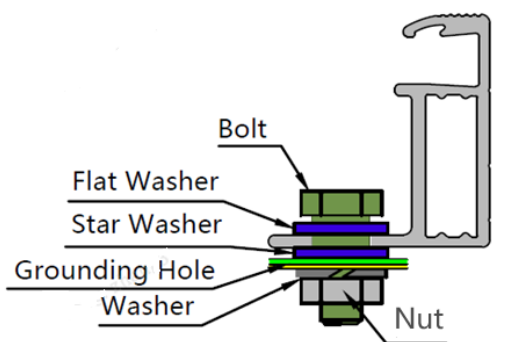

Fig. 11 Grounding of PV modules
- i) JinkoSolar recommends two types of grounding: bolted grounding, shown in Figure 11, and clamp grounding. The bolts should be tightened when grounding is installed and no damage should be done to the module frame or the grounding wire;